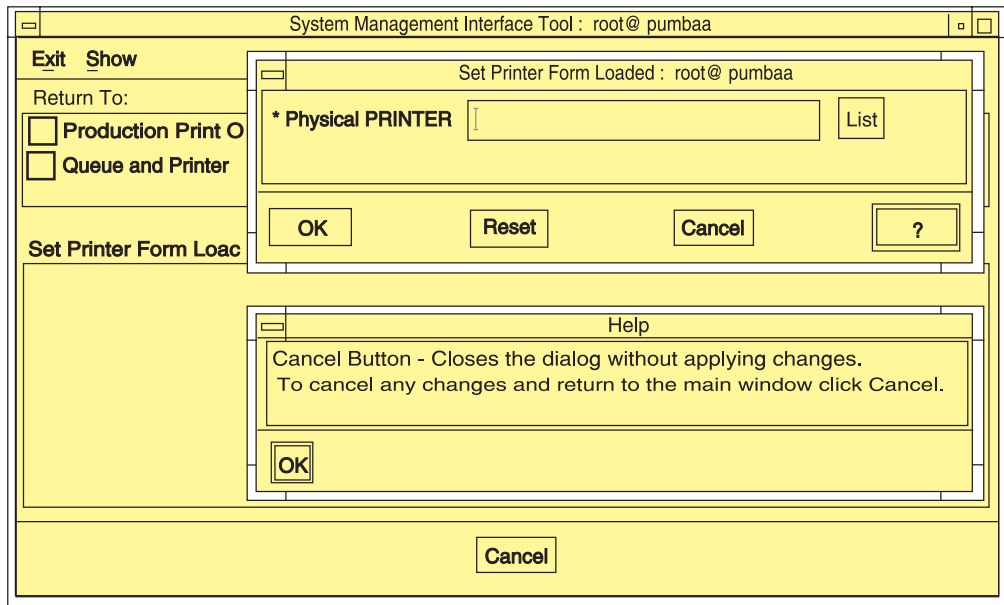

Figure 65. Help for SMIT Window Fields and Buttons
1. Select the button labeled with a question mark at the bottom right of the window. A **Help** window displays beneath the SMIT window. Figure 65 on page 284 shows the results of selecting the question mark button.